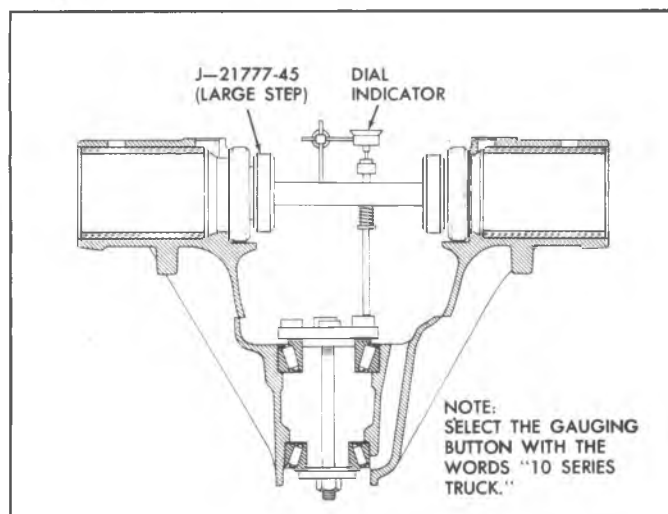
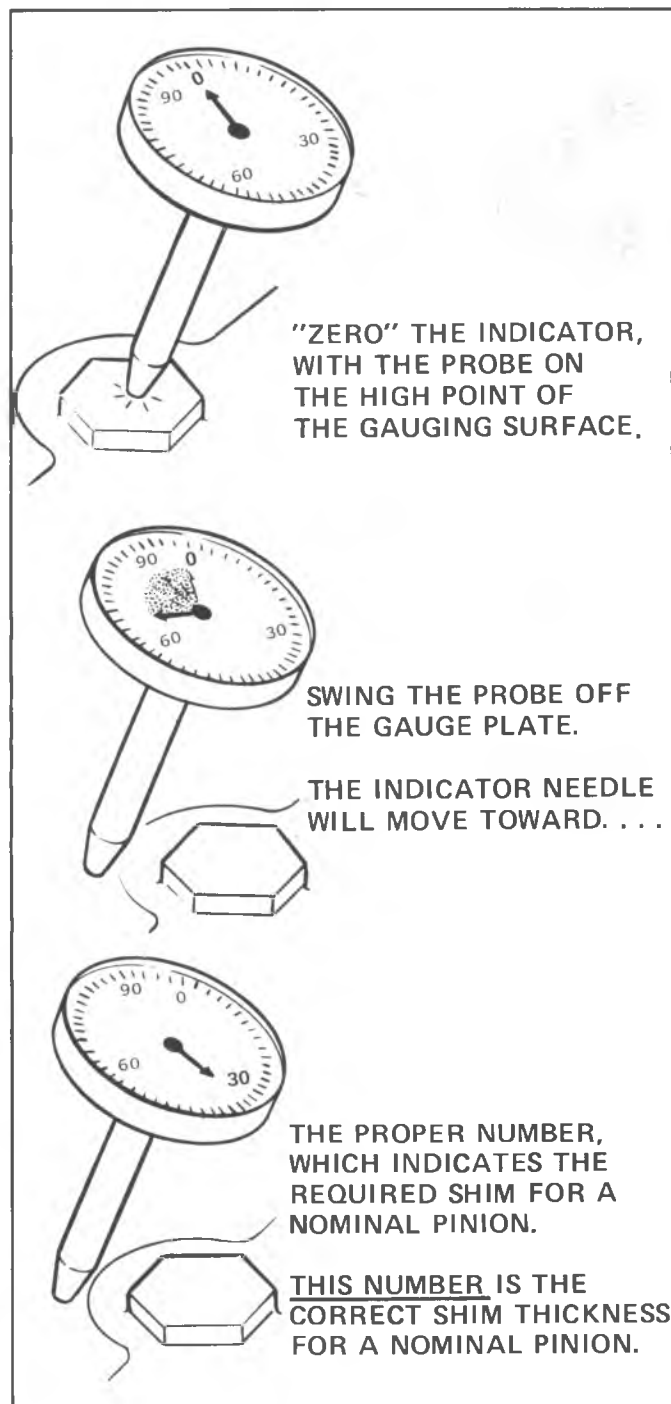

Fig. 22B--Gaging Tools Installed in Carrier
Fig. 23B--Use of Dial Indicator
11. Rock the plunger rod slowly back and forth across the button until the dial indicator reads the greatest deflection. At this point, set the dial indicator to zero. Tools will now be positioned as shown in figure 22B. It is important to use a dial indicator correctly when determining pinion depth requirements. Be sure to record the number indicated by the indicator needle; do not record the amount of travel of the needle. After "zeroing" the dial indicator on the highest point of deflection on the gauge plate, the indicator probe is swung off the gauge plate, allowing the needle to move. The number which the needle points toward is the correct shim thickness required for a nominal pinion. See figure 23B.